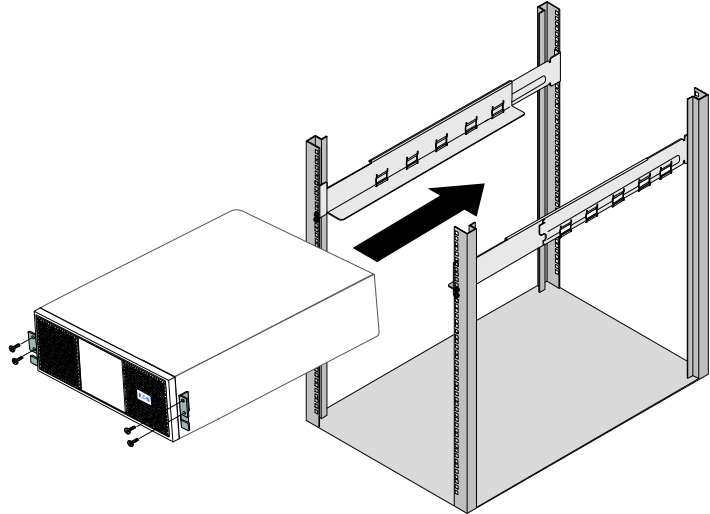

Figure 5. Installing the Cabinet in the Rack
4. Set the rear of the cabinet on the cabinet mounting flanges and slide the cabinet into the rack (see Figure 5).